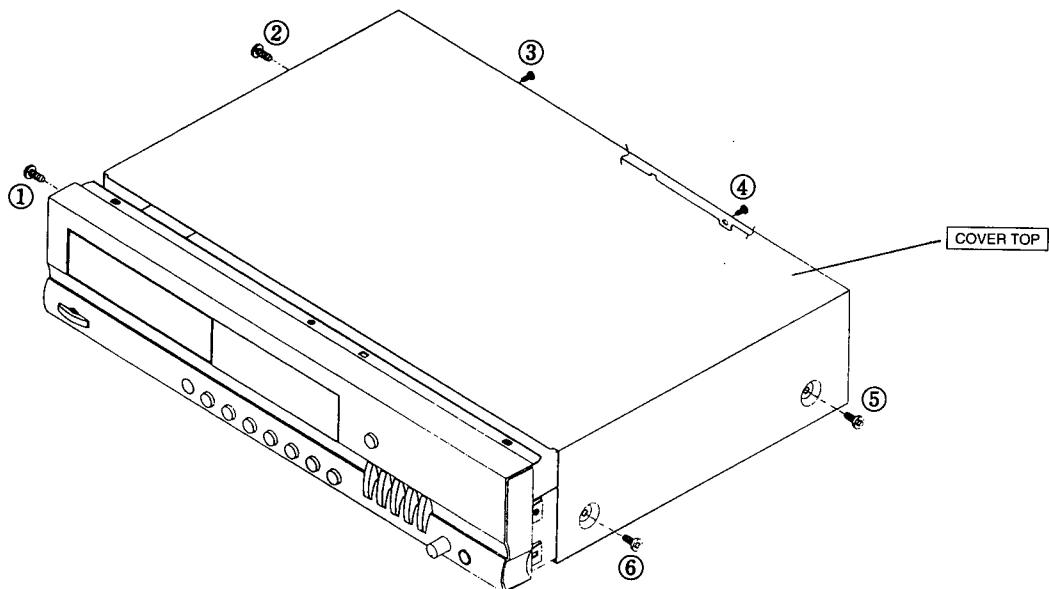

Fig. 3
① COVER TOP REMOVAL
- 1) Remove screws ① to ⑥ in Fig. 3, and then remove the cover by sliding it to its rear a little.